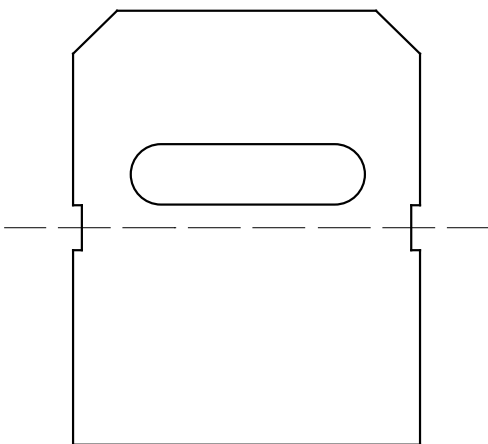

Fig. 8.24
- Make a cut-out in the area of the bending line to counteract the bulging caused by the bending. (Fig. 8.24)